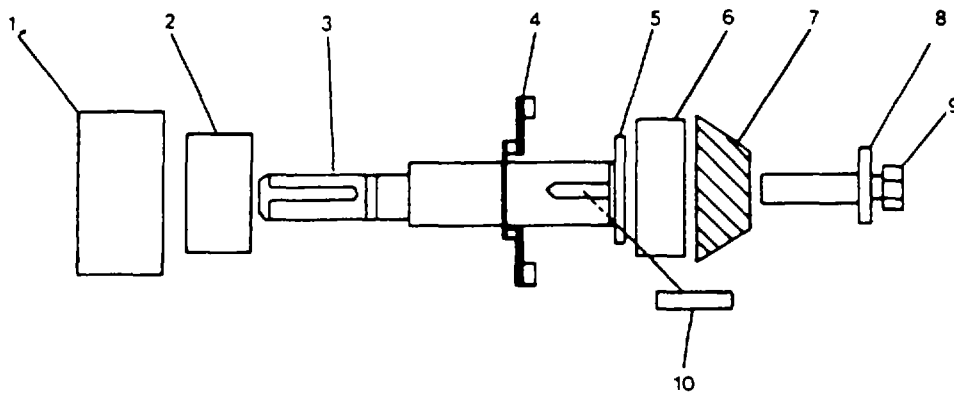

FIGURE 4-36. High Speed Shaft Assembly.
- (1) Remove I.S. bearing (1) from shaft (4).
- (2) Remove spacer (2) from shaft (4).
- (3) Separate I.S. pinion (3) from high speed bevel gear (5) and remove from shaft (4).
- (4) Separate I.S. bearing cartridge (8) from I.S. bearing assembly (7) and remove from shaft.
- (5) Remove I.S. bearing assembly (7).
- (6) Remove spacer (6) and high speed bevel gear (5) from shaft.
- (7) Retain machine keys (9,10).
d. High Speed Shaft Assembly. (FIGURE 4-36)
- a. High Speed Shaft Assembly. (FIGURE 4-36)